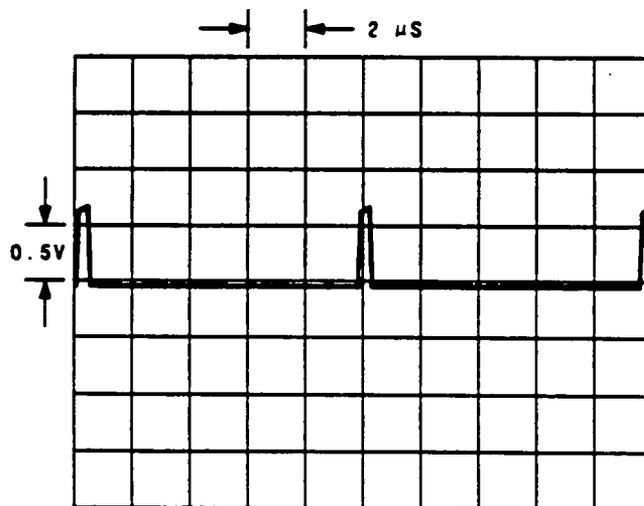

Figure 9. Oscilloscope Display of TP11 (dc coupled), W3 in position W3B (service position), Signal Generator's frequency 950 MHz.
4. Verify that the waveform in Figure 9 is correct.